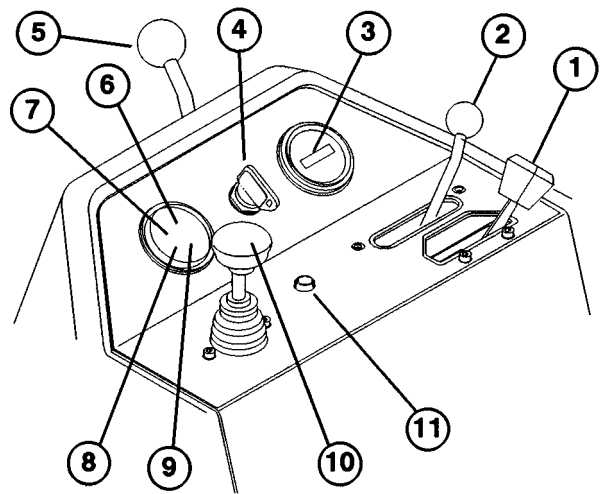

Figure 10
Throttle Control (Fig. 10)—The throttle controls the
Functional Control Lever (Fig. 10)—Provides two (2) traction selections, plus a “NEUTRAL” position. It is permissible to shift from mow to transport or from transport to mow (not to neutral) while the Greensmaster 3200-D is in motion. No damage will result.
Hour Meter (Fig. 10)—Indicates the total hours of machine operation. The hour meter starts to function whenever the key switch is turned to “ON”.
Ignition Switch (Fig. 10)—Insert the key into the switch, turn it clockwise as far as possible to the “START” position to start the engine. Release the key as soon as the engine starts; the key will move to the “ON” position. Turn the key counter-clockwise to “OFF” position to stop the engine.
Steering Arm Locking Lever (Fig. 10)—Rotate the lever rearward to loosen adjustment, raise or lower the steering arm for operator comfort, then, rotate the lever
Water Temperature Light (Fig. 10)—This light glows and the engine automatically shuts-down when the engine coolant temperature gets too high.
High-Temperature Override Button (Fig. 10)—If the engine kills due to an over heat condition, press the override button in and hold it there until the machine can be moved to a safe location and allowed to cool down.
Glow Plug Indicator Light (Fig. 10)—When lit, this light indicates the glow plugs are on.
Battery Warning Light (Fig. 10)—Light glows if the battery charge is low.
Oil Pressure Light (Fig. 10)—Light glows if the engine oil pressure drops below a safe level.
Raise/Lower/Mow Control (Fig. 10)—Moving this control forward during operation lowers the cutting units and starts the reels. Pull back on the control to stop the reels and raise the cutting units. During operation, the reels can be stopped by pulling back on the control momentarily, then releasing it. Restart the reels by moving the control forward.